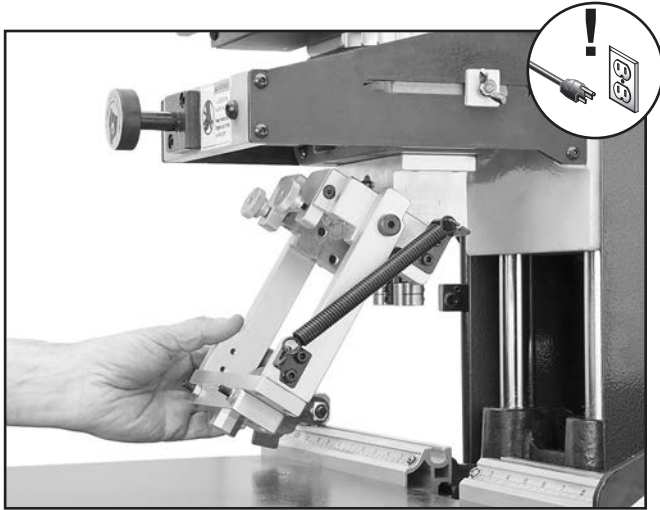

Figure 17. Sliding swing arm onto boring head.
9. Slide the swing arm assembly over the boring head (see **Figure 17**).